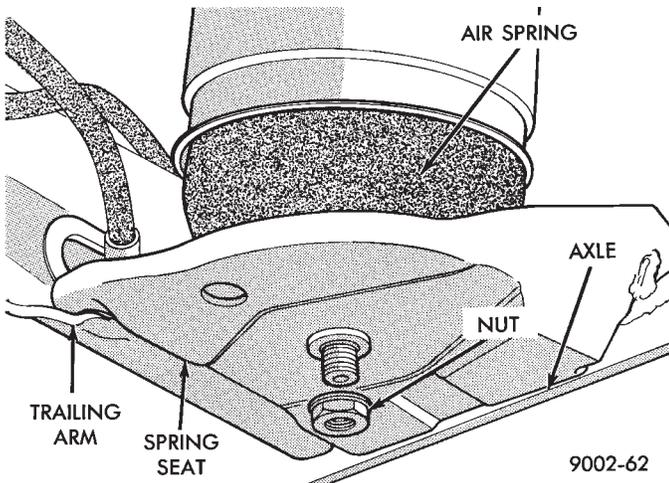

Fig. 19 Remove/Install Lower Spring to Axle Nut
(5) Remove lower spring to axle nut (Fig. 19).